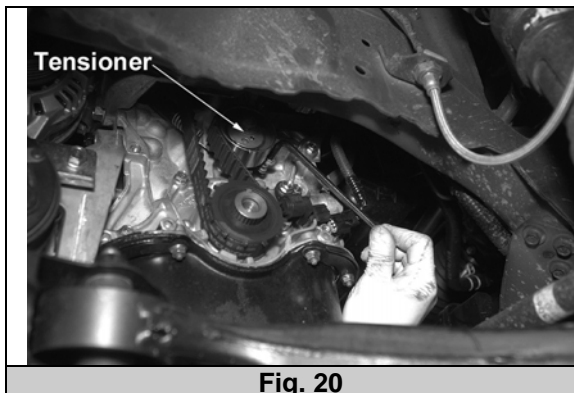

Fig. 20
- bb) Place the correct size Allen-key into the hex slot on the side of the timing belt tensioner. (Fig. 20)